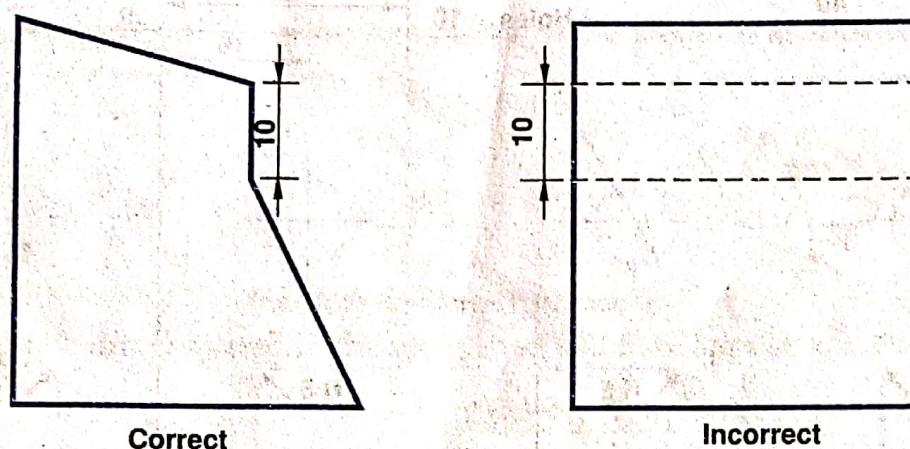

Fig. 3.17 Dimensions should be marked from the visible outlines
- (vi) Dimensions should be marked from visible outlines rather than from hidden lines, as shown in Fig. 3.17.